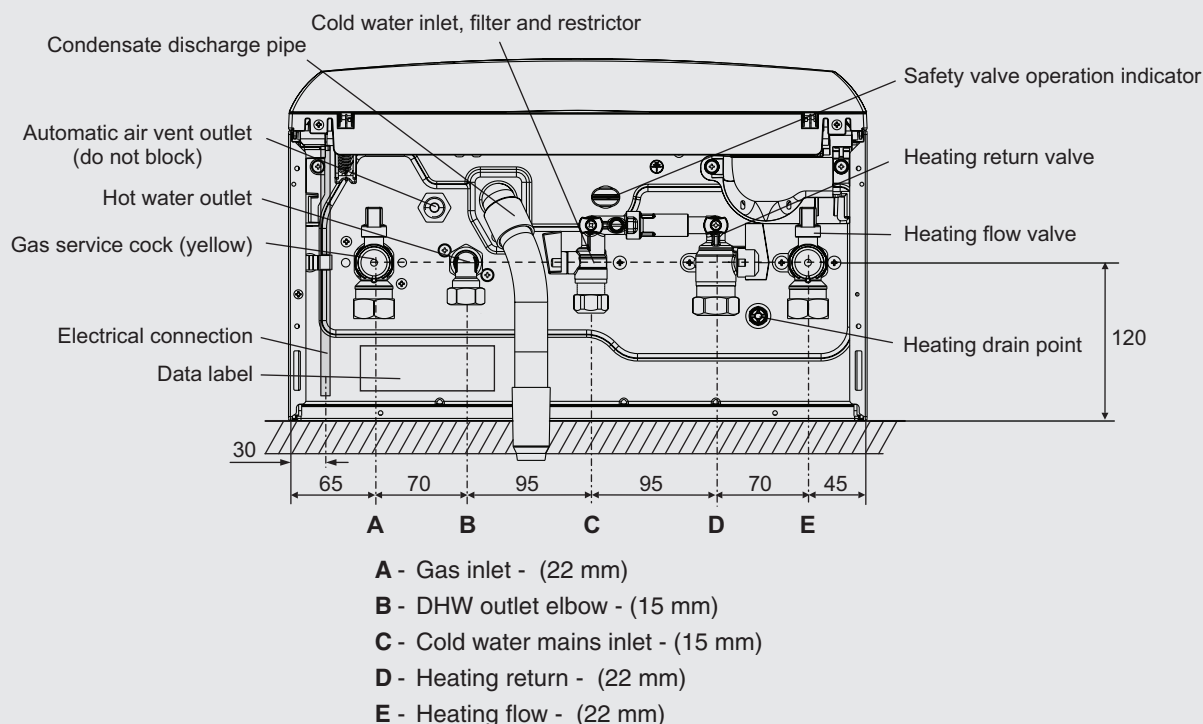

Fig. 5.4
5.5 CONNECT THE PIPEWORK - Fig. 5.4
2. Fit the valves to the boiler connections as shown in Fig. 5.4 - note the colours of the operating levers.
4. Connect the flexible condensate pipe to the rubber connector as shown in Fig. 5.4. Using the adaptor supplied, connect the flexible pipe to the condensate drain.